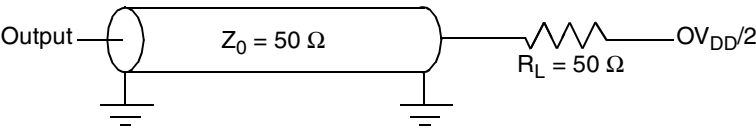

Figure 4. AC Test Load
- All input specifications are measured from the midpoint of the signal in question to the midpoint of the rising edge of the input SYSCLK. All output specifications are measured from the midpoint of the rising edge of SYSCLK to the midpoint of the signal in question. All output timings assume a purely resistive 50-Ω load (see Figure 4). Input and output timings are measured at the pin; time-of-flight delays must be added for trace lengths, vias, and connectors in the system.
- The symbology used for timing specifications herein follows the pattern of  $t_{(signal)(state)(reference)(state)}$  for inputs and  $t_{(reference)(state)(signal)(state)}$  for outputs. For example,  $t_{VKH}$  symbolizes the time input signals (I) reach the valid state (V) relative to the SYSCLK reference (K) going to the high (H) state or input setup time. And  $t_{KHOV}$  symbolizes the time from SYSCLK(K) going high (H) until outputs (O) are valid (V) or output valid time. Input hold time can be read as the time that the input signal (I) went invalid (X) with respect to the rising clock edge (KH) (note the position of the reference and its state for inputs) and output hold time can be read as the time from the rising edge (KH) until the output went invalid (OX).
Figure 4 provides the AC test load for the MPC7448.